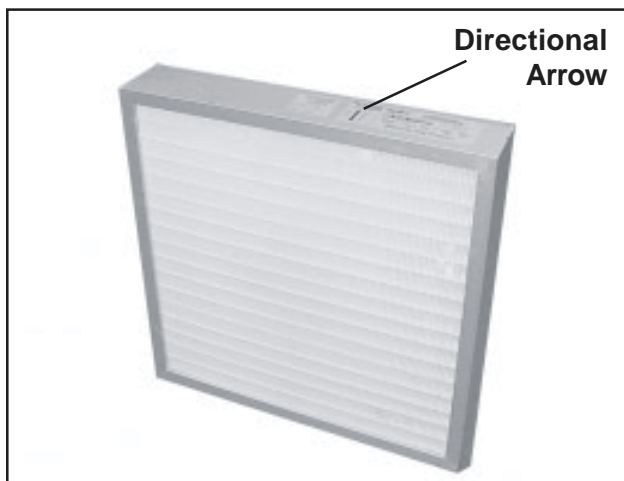

Figure 56. Typical HEPA Filter
2. Install a clean, new HEPA filter so that the side with the rubber gasket faces the blower motor. The directional arrow (Figure 56) on top the filter should point away from the blower.